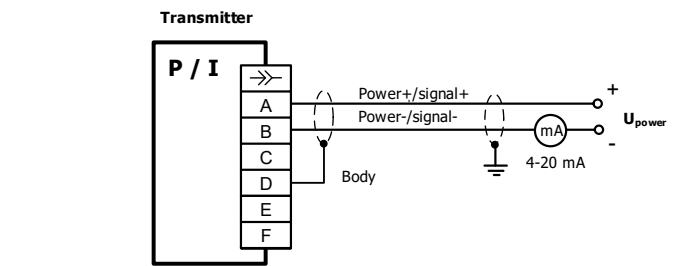
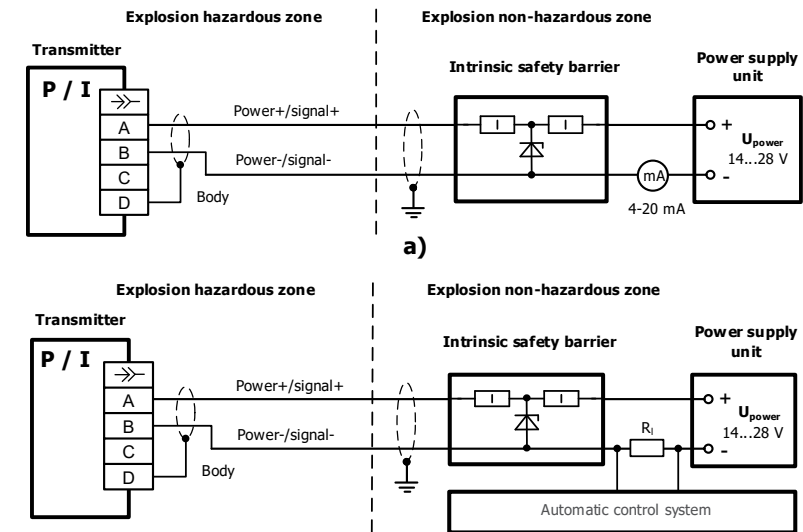

Fig. 1 – A connection diagram for outputs of 6-pin MIL-/Bendix connector (type PT02-E10-6P-023)
Fig.2 – A connection diagrams for "current" signal analog outputs to ensure explosion protection (R_L – load resistance ≤1000 Ohm).
4.2 The transmitter's circuits are connected via the connector as per the circuit diagrams shown in Fig. 1 or Fig. 2. The diagrams include intrinsic safety barriers to ensure transmitter explosion-proof use (Fig. 2).